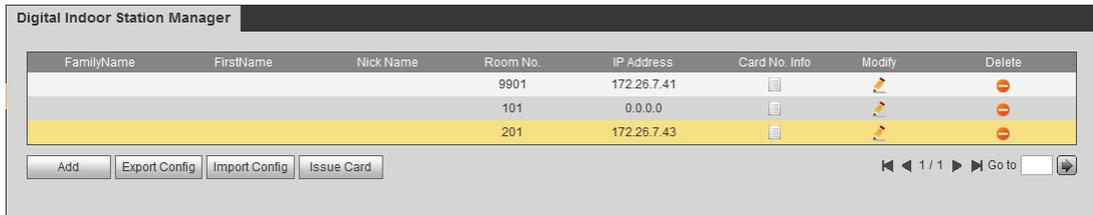

Figure 5-20
Step 12 Select “System Config > Digital Indoor Station Manager”. The system displays “Digital Indoor Station Manager” interface, as shown in Figure 5-20.